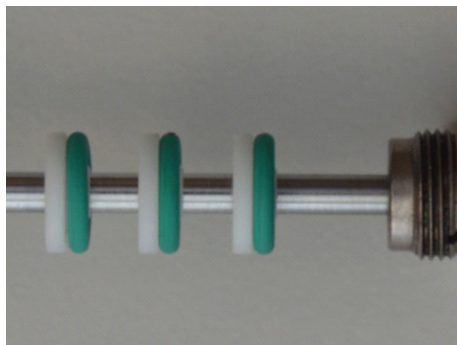

Fig. 14: Detail view
6.  Pay attention to the correct installation position ( Fig. 14).